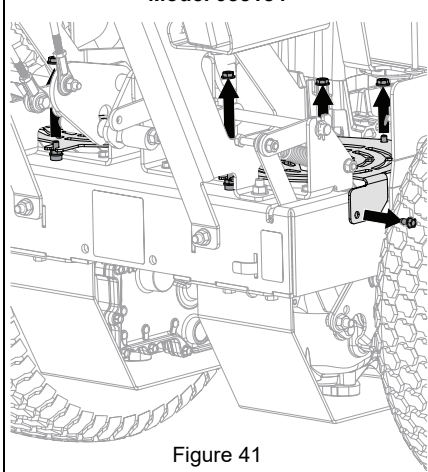

Figure 41
6. Remove hardware retaining transaxle covers and remove covers. Retain for reinstallation. See Figures 41 and 42.